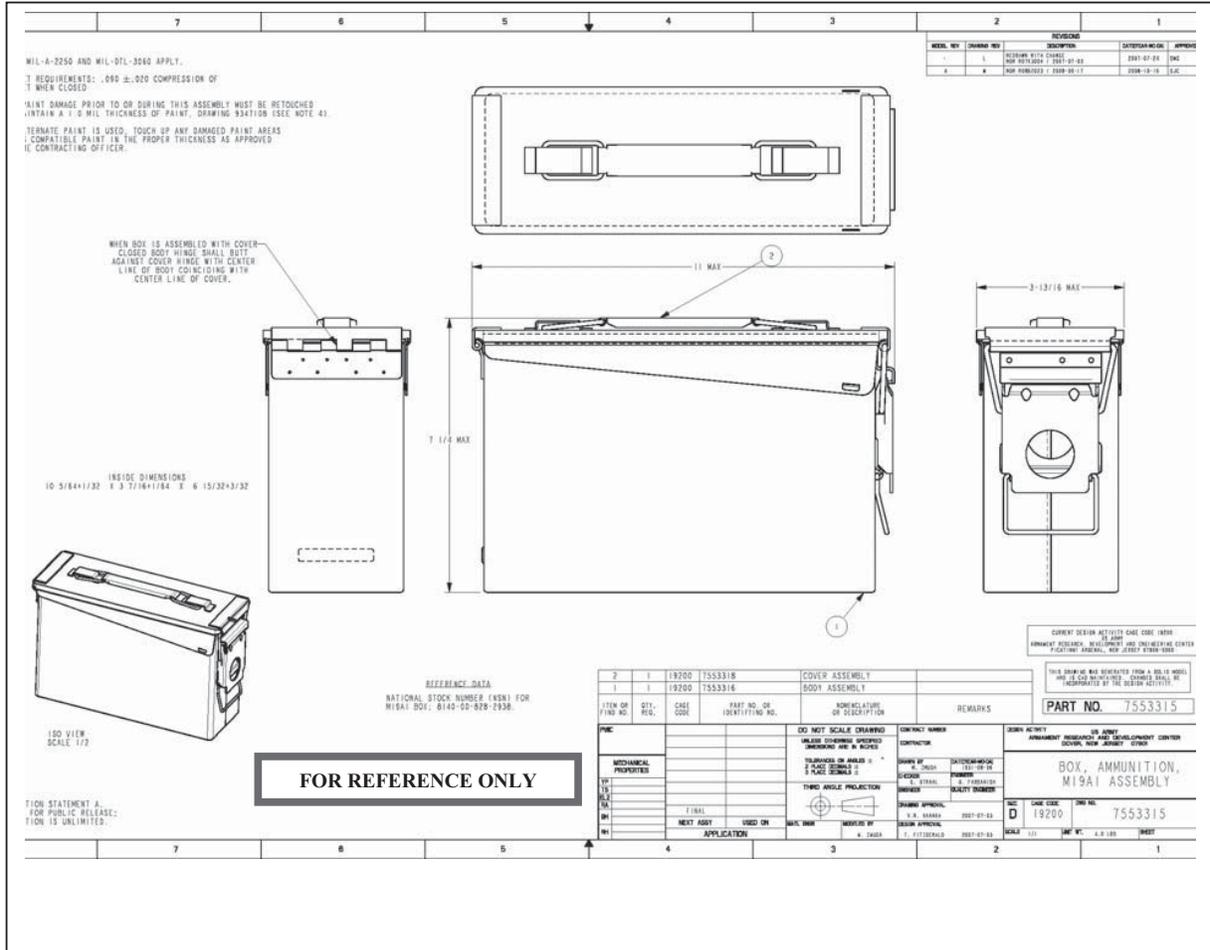

Figure 7 – NATO Ammo Box C6
- 3.3.13** The MGSM shall permit the operator to load and unload his or her choice of a 5.56mm or 7.62mm NATO Standard ammunition container (Appendix 3: Pictures and Diagrams, Fig. 7 and Fig. 8) or loose links while the MG is mounted. No special tooling shall be required.